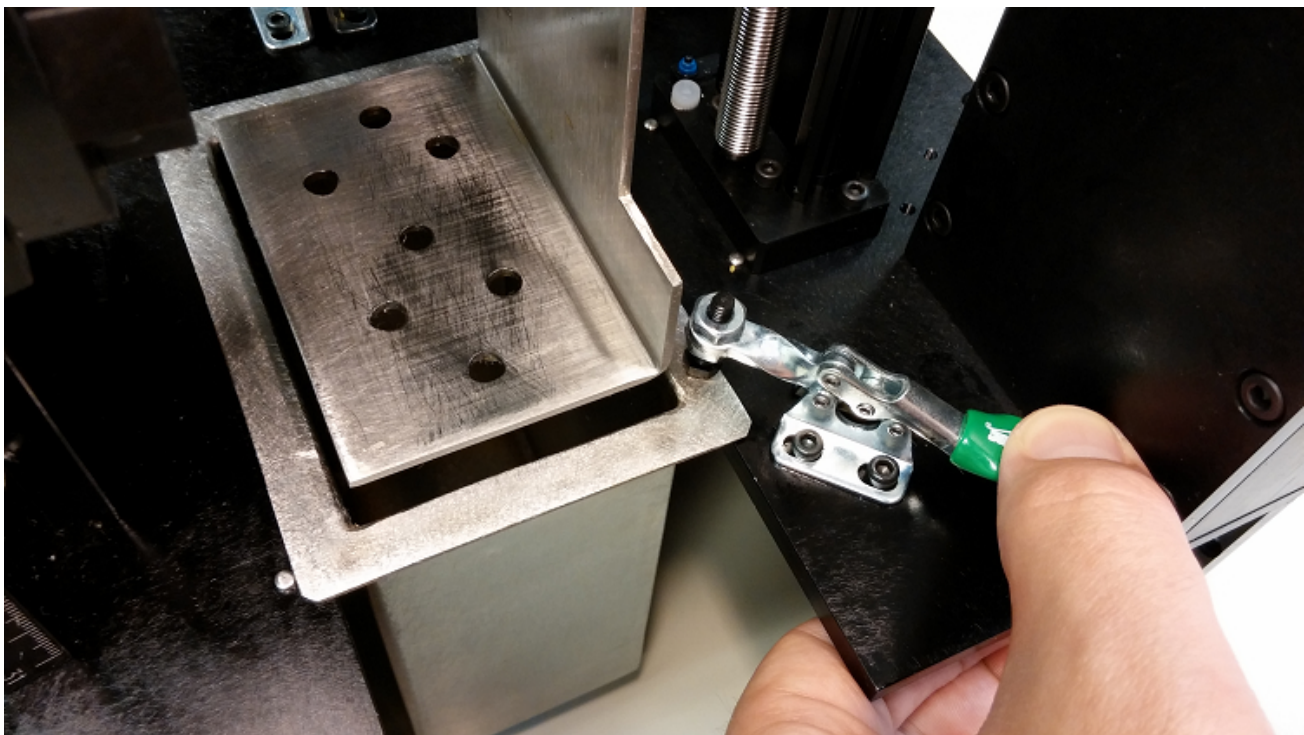

Figure 3-9. Resin Vat Locked In Position
3. Secure the vat in place by securing the latches on the base, as shown in Figure 3-9.